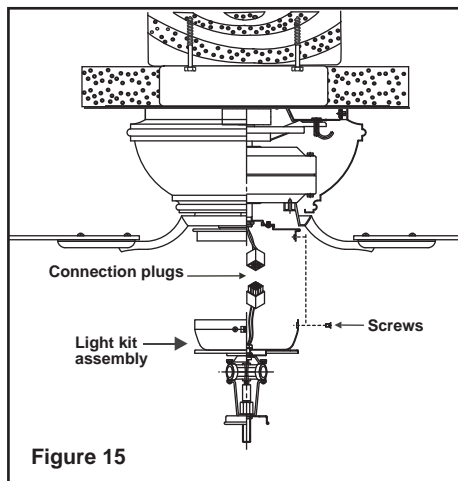

Figure 15
2. Carefully push all wires back into the switch housing, then install the light kit assembly onto the mounting plate with 3 screws provided. Be sure to tighten all screws. (Fig.15)